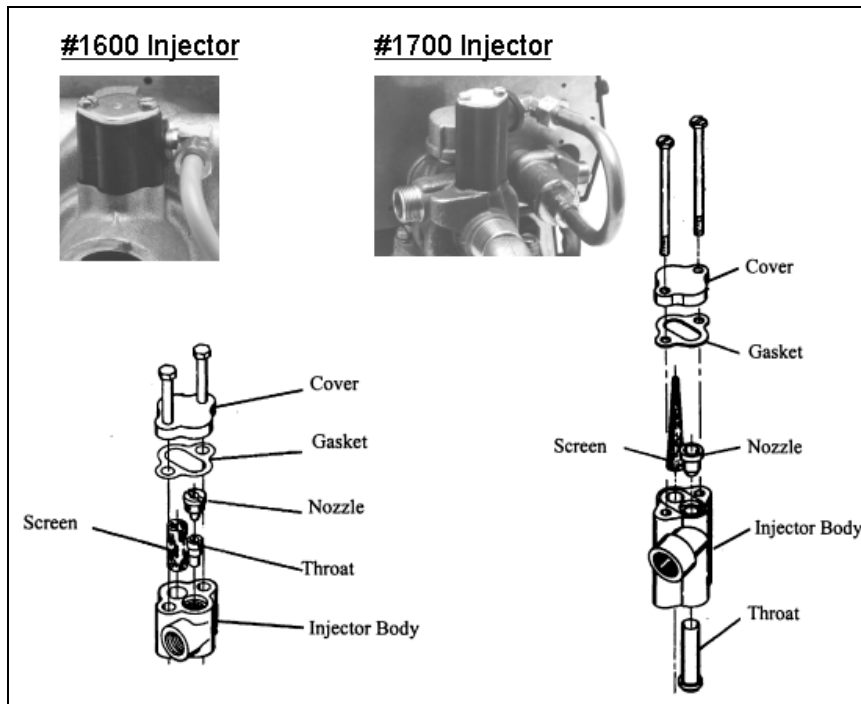

Figure 2-6: Injector Components and Assembly
- A. Verify the correct injector assembly is used using the following procedure and referring to Figure 2-6 above. Each control valve has been configured for use with a specific diameter tank. If a smaller or larger tank is used instead, a different injector will need to be used: